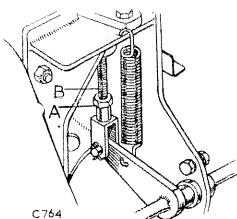

Fig. B-11—
1. Slacken the push-rod locknut, at the slave cylinder. See Fig. B-11.